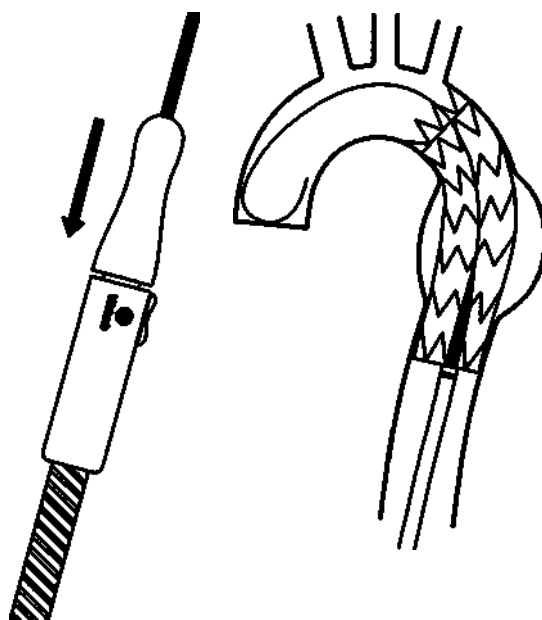

Fig. 11 Pull back the tip
- Hold the slider grip of the delivery system stationary, unlock the trigger and pull back the front grip to make the tip back to the distal end of the out sheath. (Fig.11)